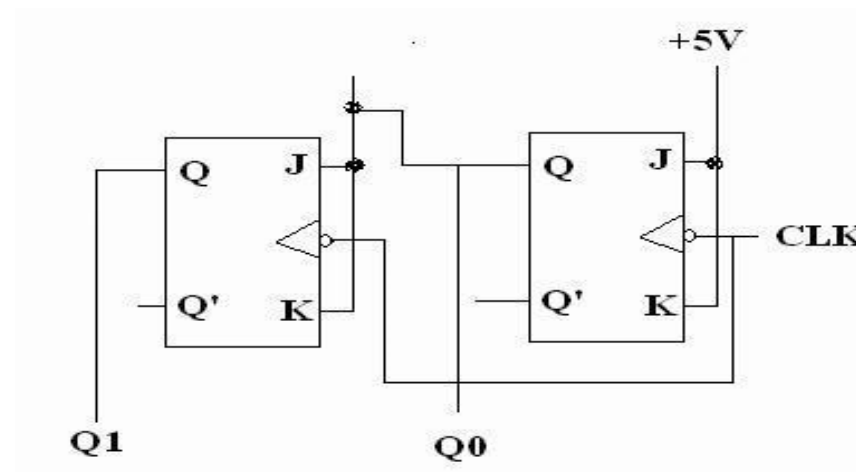

Figure 5.17: 2-bit Synchronous Counter.
1. Use the KL-33009 module to implement the 2-bit synchronous counter shown in Figure 5.17.
Task 2: Modify the circuit in *Figure 5.17* to be a 3-bit **Synchronous Counter**. Attach the design with this experiment report.